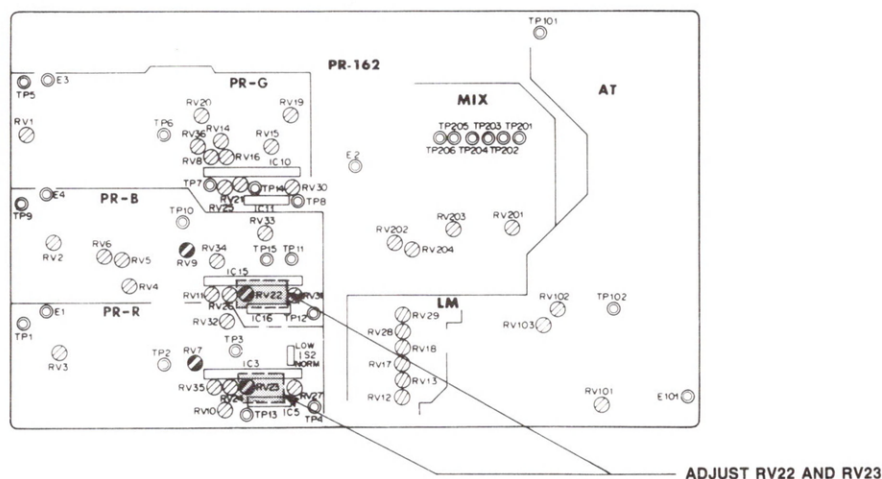

Figure 1
4. Turn master pedestal VR fully counterclockwise (inside front door of CCU). Turn RV22 (zone D-5) and RV23 (zone E-7) on the PR-162 board so that carrier at BVS OUT is minimum level. (See Figures 1 and 2.)